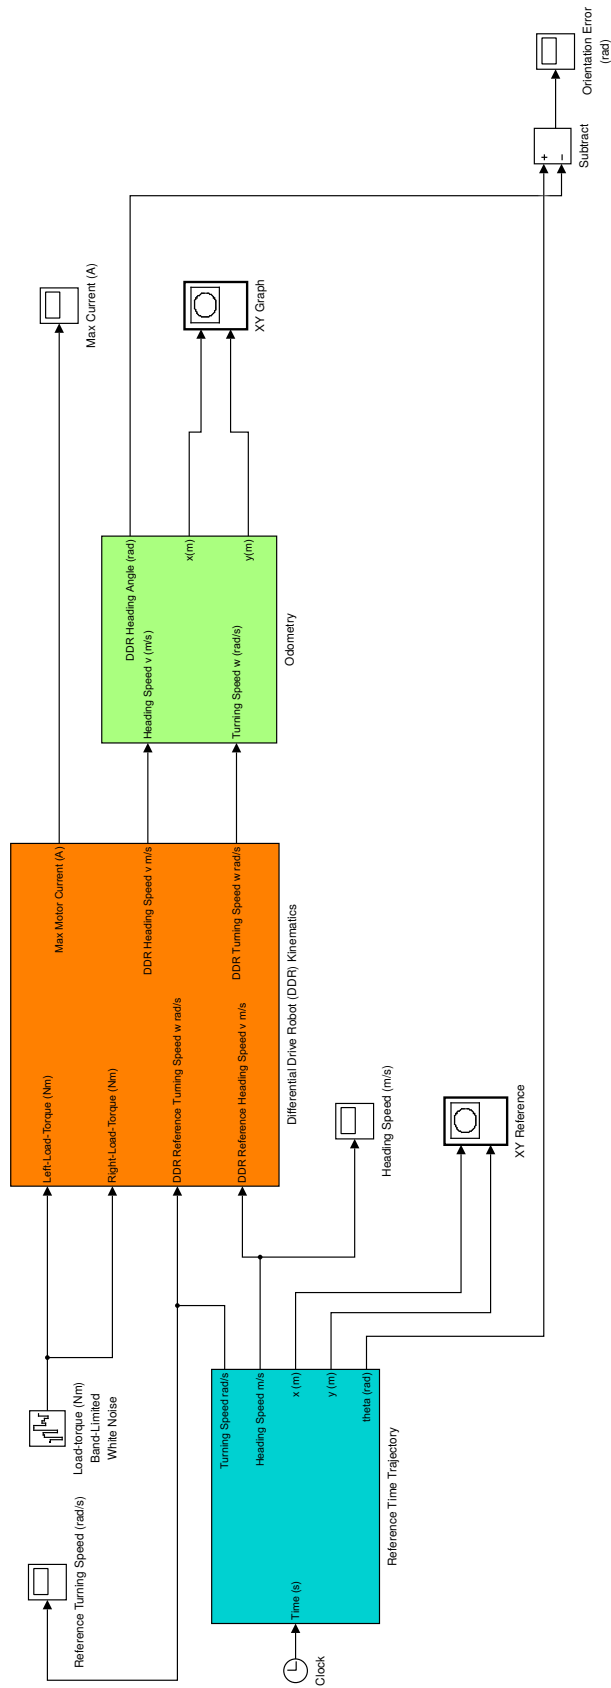

Figure 3.1: The overview of the differential-drive mobile robot. The individual subsystems/blocks are shown in the following figures.
Task 3.1. *Implement the overall system shown in Fig. 3.1: Its individual blocks are shown in detail in Figs. 3.2, 3.3, and 3.4. The “Reference Time Trajectory” subsystem generates the reference heading and turning speeds from GIMS-I/homework-10 problem. The robot then tries to follow this using its motor speed-controllers despite the disturbance torque-load acting on the wheels. The plot of the XY motion of the robot and the maximum current flowing through either of its motors is available in the scopes.*
2. Modify the model in Fig. 3.1 (remove the reference time-trajectory block) and use only proportional control on the angular error to compute the DDR reference turning-speed. Do you notice any overshoots? Choose K_P such that: